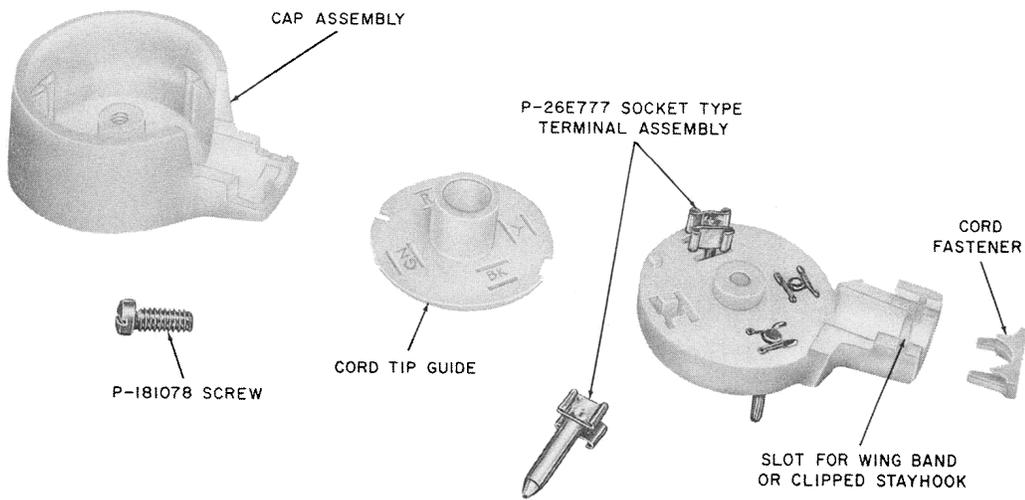

Fig. 7 — 505A Plug Disassembled
**2.07** The 505A plug (Fig. 6) is a 4-contact plug similar to the 504A plug, but has in addition a cord fastener (Fig. 7) which holds the cord in place while the spade tips are being connected. The cord fastener also anchors the mounting cord in the assembled plug.